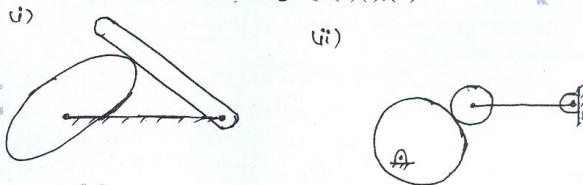

Fig. Q1(a)(i),(ii)
c. Find mobility of the mechanism shown in Fig. Q1(c)(i),(ii). (06 Marks)